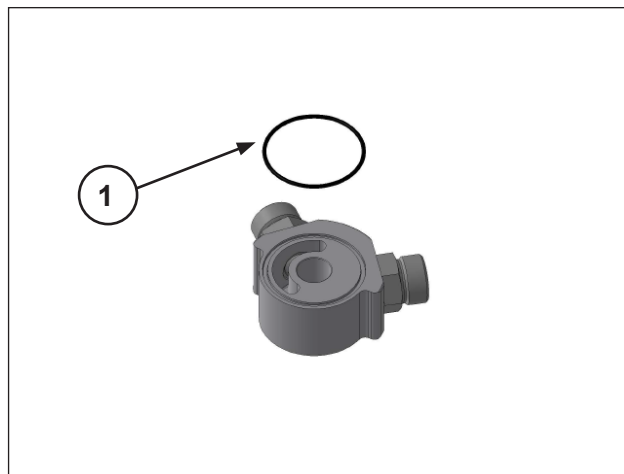

Fig. 129
Install the air-oil exchanger adapter unit (pos. ①, Fig. 129) and adjust the fixing screw with a torque wrench as described in heading 3.